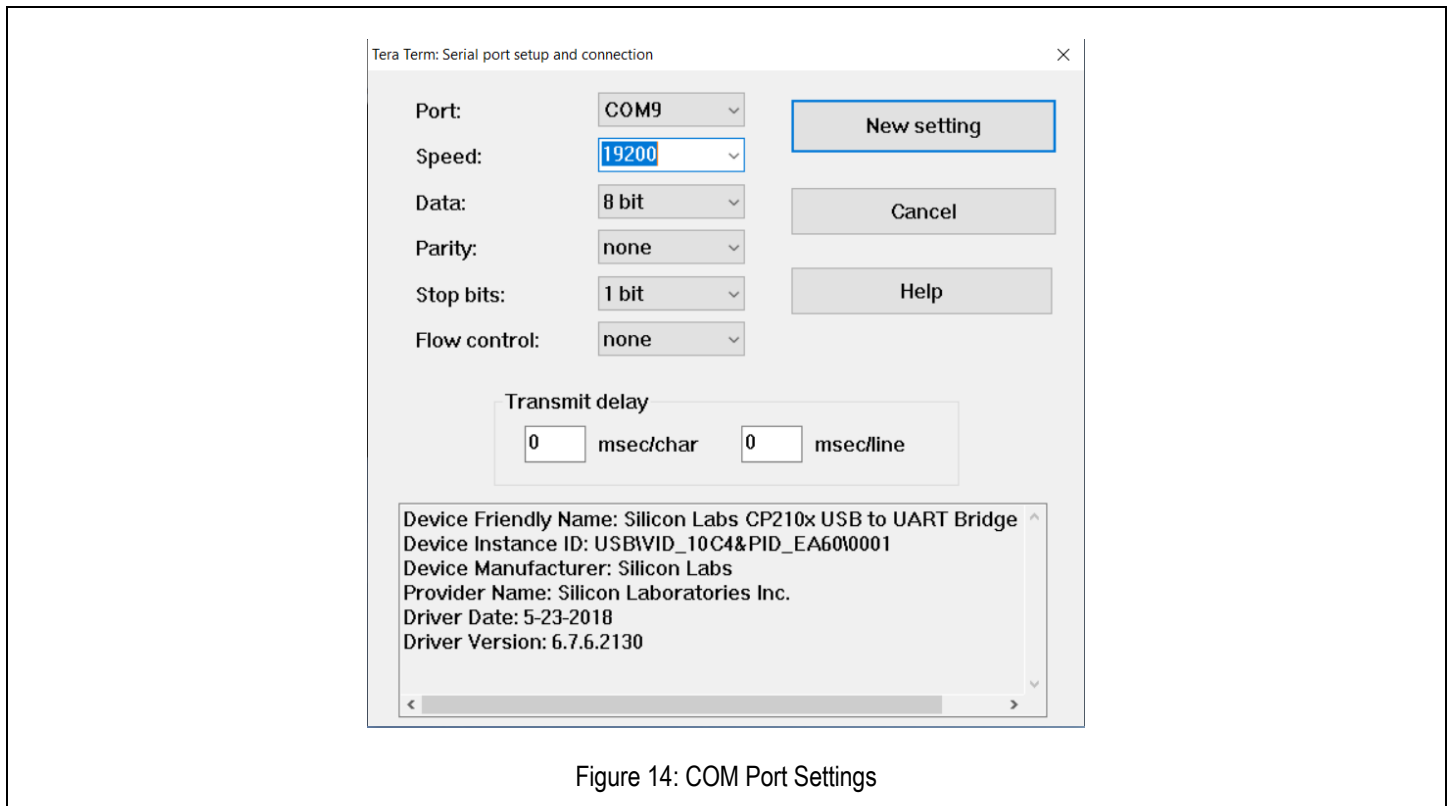

Figure 14: COM Port Settings
7. The serial commands are shown in Figure: 14 and Figure: 15.